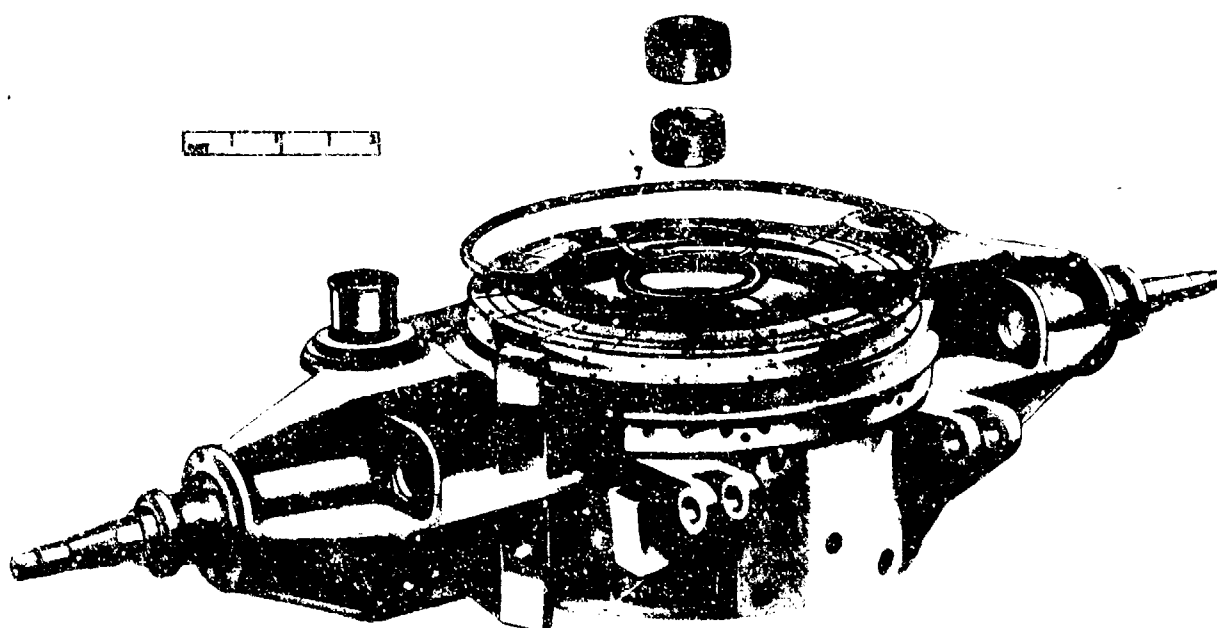

Figure 5-9. Bottom carriage.
*a. Construction.* The bottom carriage (fig 5-9) of the 155-mm howitzer, towed, is constructed of welded steel.
- (1) Supports the weight of the top carriage and the tipping parts.
- (2) Transmits firing stresses to the firing jack